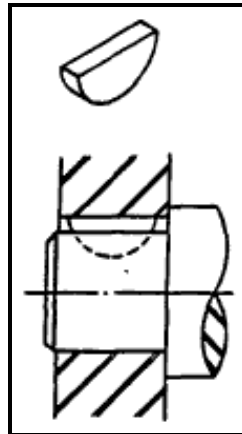

FIGURE 1.1
- D It becomes brittle. (1)
1.7 Identify the type of key shown in FIGURE 1.1.